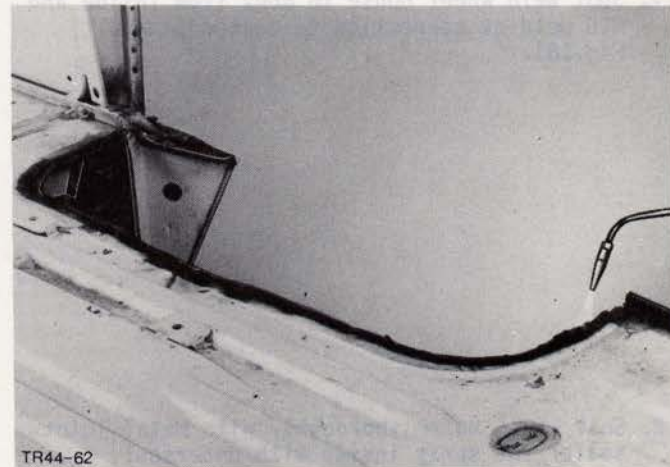

Fig.179. Burn paint off spot weld flange.
3. Dress spot weld flanges, Fig.179, and straighten.